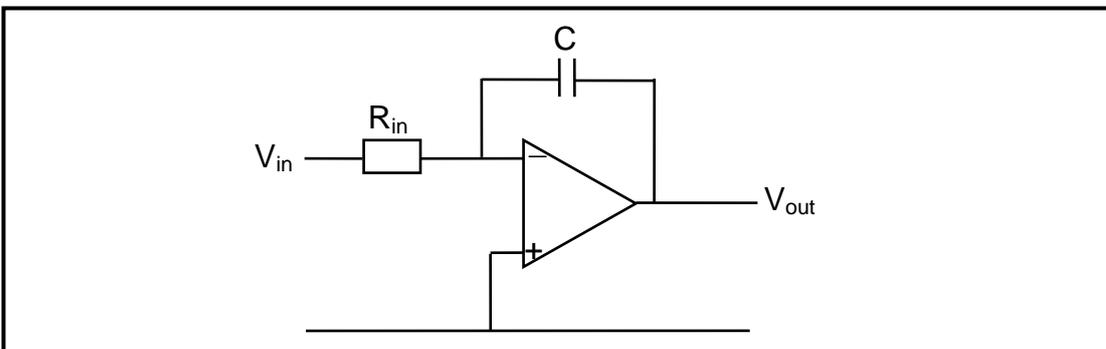

FIGURE 7.7: OP-AMP INTEGRATOR CIRCUIT
7.11 With reference to FIGURE 7.7, answer the questions that follow.